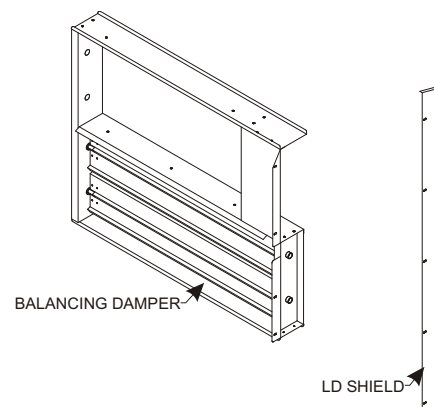

Figure 7
- 17- Secure balancing damper in place by screwing the LD shield to the economizer side panel. **See Figure 7.**